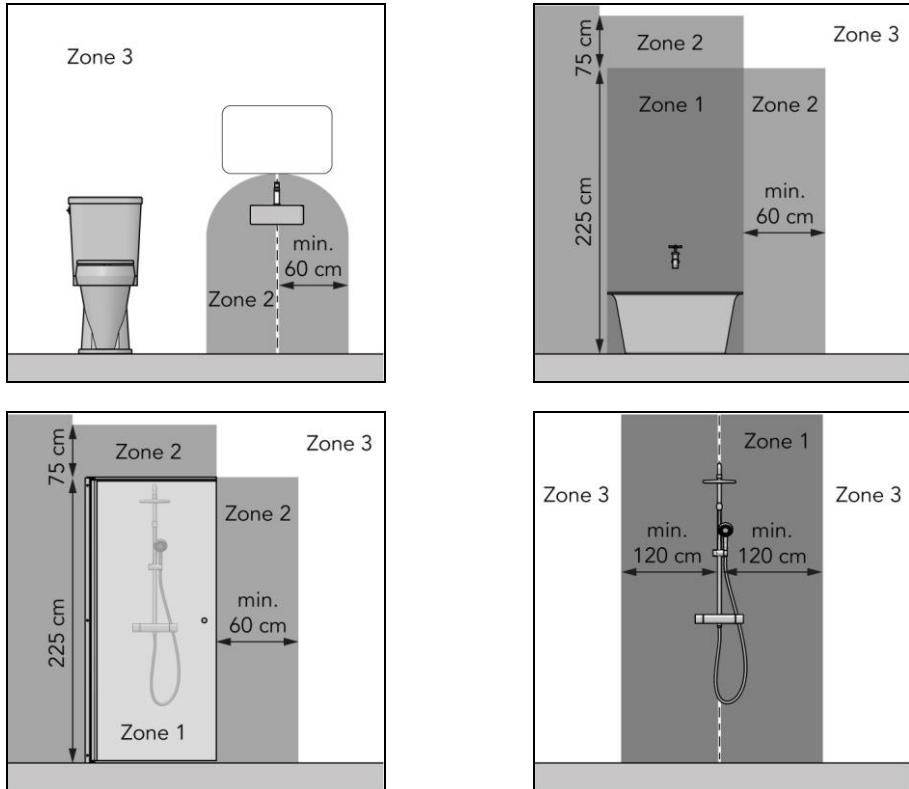

Figure 1
- in zone 3 of a toilet room or bathroom with a bath, shower with screen and shower without screen (Figure 1);
The Alutherm Sani Verre is an easy-to-use electric bathroom heater for use only in zone 3 of the bathroom (Figure 1). The device can be programmed on a day and a week timer. The Alutherm Sani Verre Wi-Fi can be used with the Eurom Smart App. This device is exclusively for heating domestic living spaces and may not be used for any other purposes. The device is suitable for wall-mounting only.